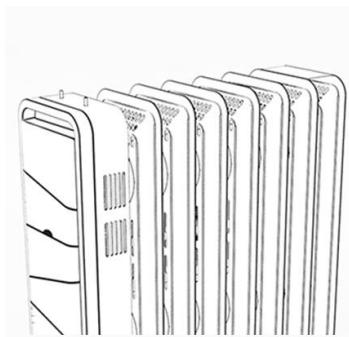

Fig.1
1. Turn the heater upside down.(Fig.1)